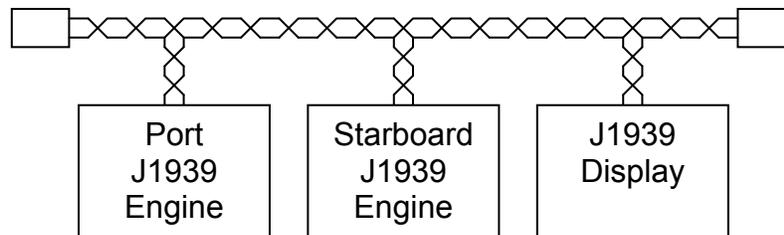
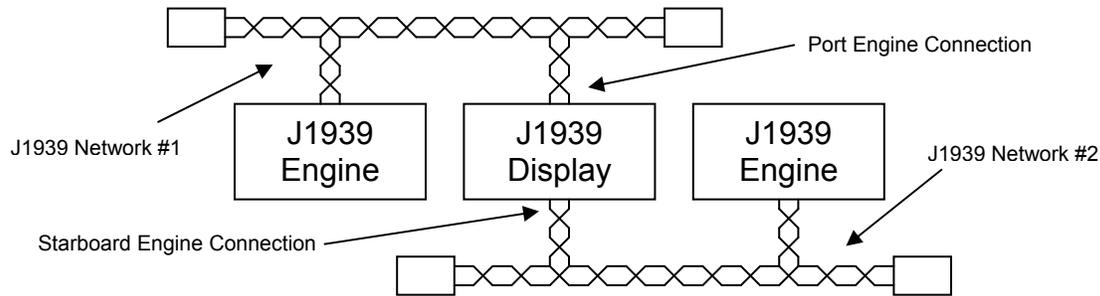

Figure 3 – Two Engine, Single J1939 Network
Figure 4 – Two Engines, Dual J1939 Networks
Another example showing a two engine, single J1939 network is given below in Figure 3.
The two engine, single J1939 network shown in Figure 3 requires the individual engines to use different source addresses so that the display can distinguish which data packets or messages are associated with which engine (J1939 and NMEA 2000® refer to the messages as Parameter Group Numbers or PGNs). Usually, but not always, the port engine is assigned to address 0 while the starboard engine is assigned to address 1 by the engine manufacturer.
Another example showing two engines with, dual J1939 networks is given below in Figure 4.
Unlike the single J1939 network shown in Figure 3, the dual J1939 network scheme shown in Figure 4 does not require the engines to have unique J1939 addresses. This is because the display can determine which messages or PGNs are from which engine by the physical connection on the display unit. In this scheme, each engine usually uses a source address of zero (0).